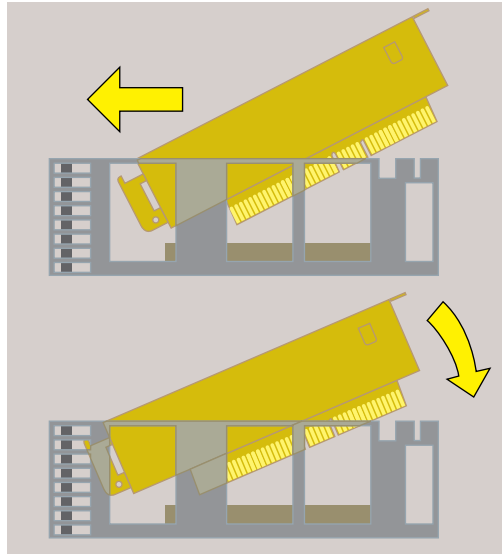

Figure 2-38 Replacing the PCI Tray in the System Module
1. Reinstall the PCI tray in the system module (Figure 2-38).